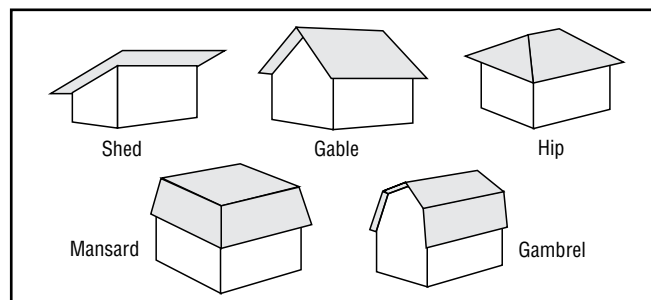

Figure GI-3
Gable roof – A type of roof containing sloping planes of the same pitch on each side of the ridge. Contains a gable at each end (Figure GI-3).
Gambrel roof – A type of roof containing two sloping planes of different pitch on each side of the ridge. The lower plane has a steeper slope than the upper. Contains a gable at each end (Figure GI-3).
Hip roof – A type of roof containing sloping planes of the same pitch on each of four sides. Contains no gables (Figure GI-3).
Mansard roof – A type of roof containing two sloping planes of different pitch on each of four sides. The lower plane has a much steeper pitch than the upper, often approaching vertical. Contains no gables (Figure GI-3 on previous page).
**Shed roof** – A roof containing only one sloping plane. Has no hips, ridges, valleys or gables (Figure GI-3).